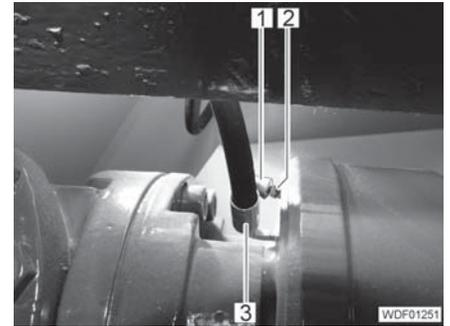

Fig. 236 Hydraulic line of the service brake
- Unscrew and close off the hydraulic line of the service brake (Fig. 236,3).